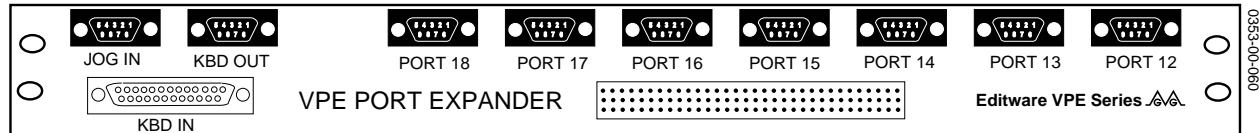

Figure 2-3. Expansion Chassis
The Expansion Chassis (VPE-351 only), shown in Figure 2-3, consists of eight (8) 9-pin D connectors and a 64-pin Serial I/O connector. These connectors provide the signal interfaces between the Expansion Chassis, the Computing Chassis, peripheral devices, and, if desired, the K5 Keyboard.